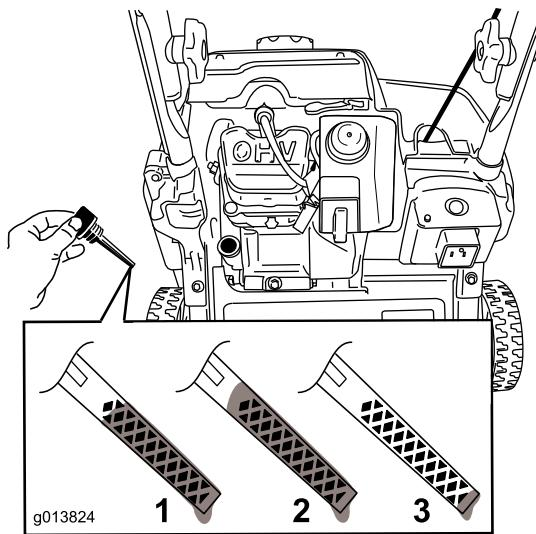

Figure 27
**Note:** To determine the proper oil level on the dipstick, refer to Figure 27.
**Note:** Fill the engine crankcase with oil until the dipstick indicates that the engine oil level is correct as shown in Figure 27. If you overfill the engine with oil,